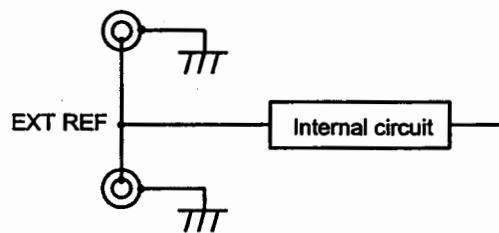

Figure 3.5 Loop-through input
The EXT REF connectors ⑩ are of loop-through configuration. Loop-through connectors are connected as shown in Figure 3.5.